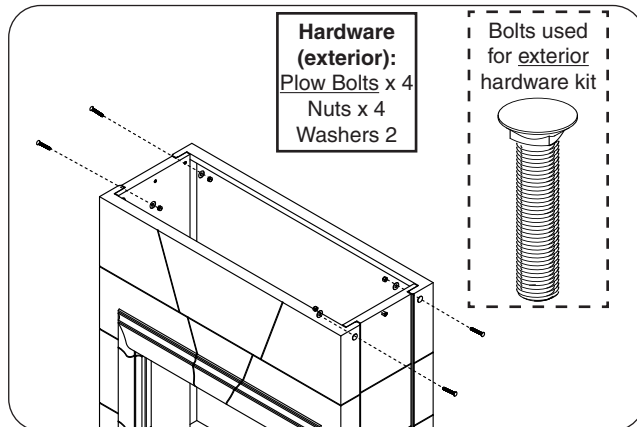

Fig. 23-4 Assemble body - top portion
4. Insert the hardware (exterior hardware kit) into the top portion of the body assembly pilot holes and hand tighten. See Fig. 23-4.